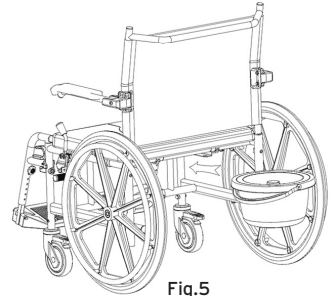

Fig.5
- Insert the bucket from the rear side of the shower chair by sliding it into the slots (Fig.5).